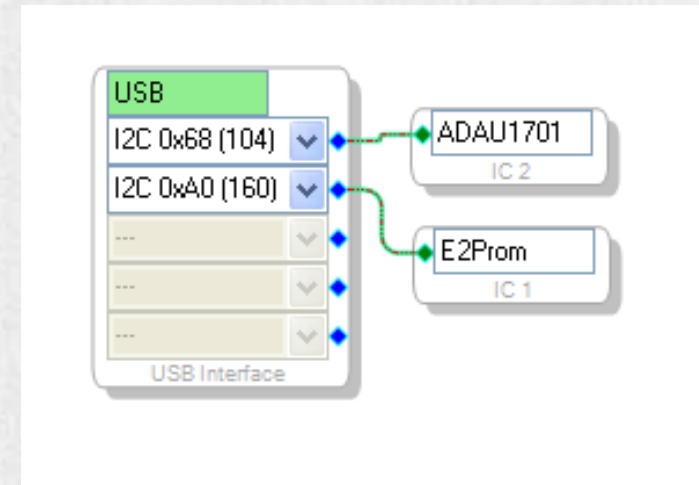

Figure 1
4. Please note whether the ICP1 can be recognized by the computer, if the underpainting of the “USB” turn green, it represents the ICP1 is recognized, otherwise it will turn orange and you should reconnect the ICP1 until it turns green. See figure 1.